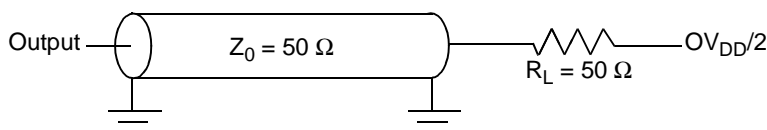
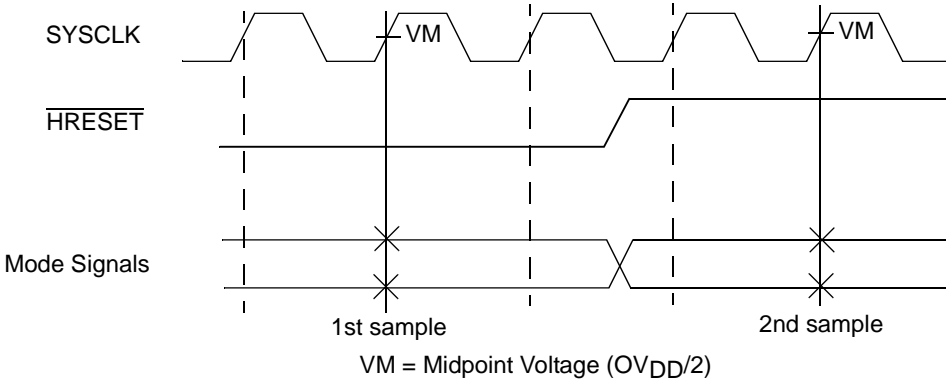
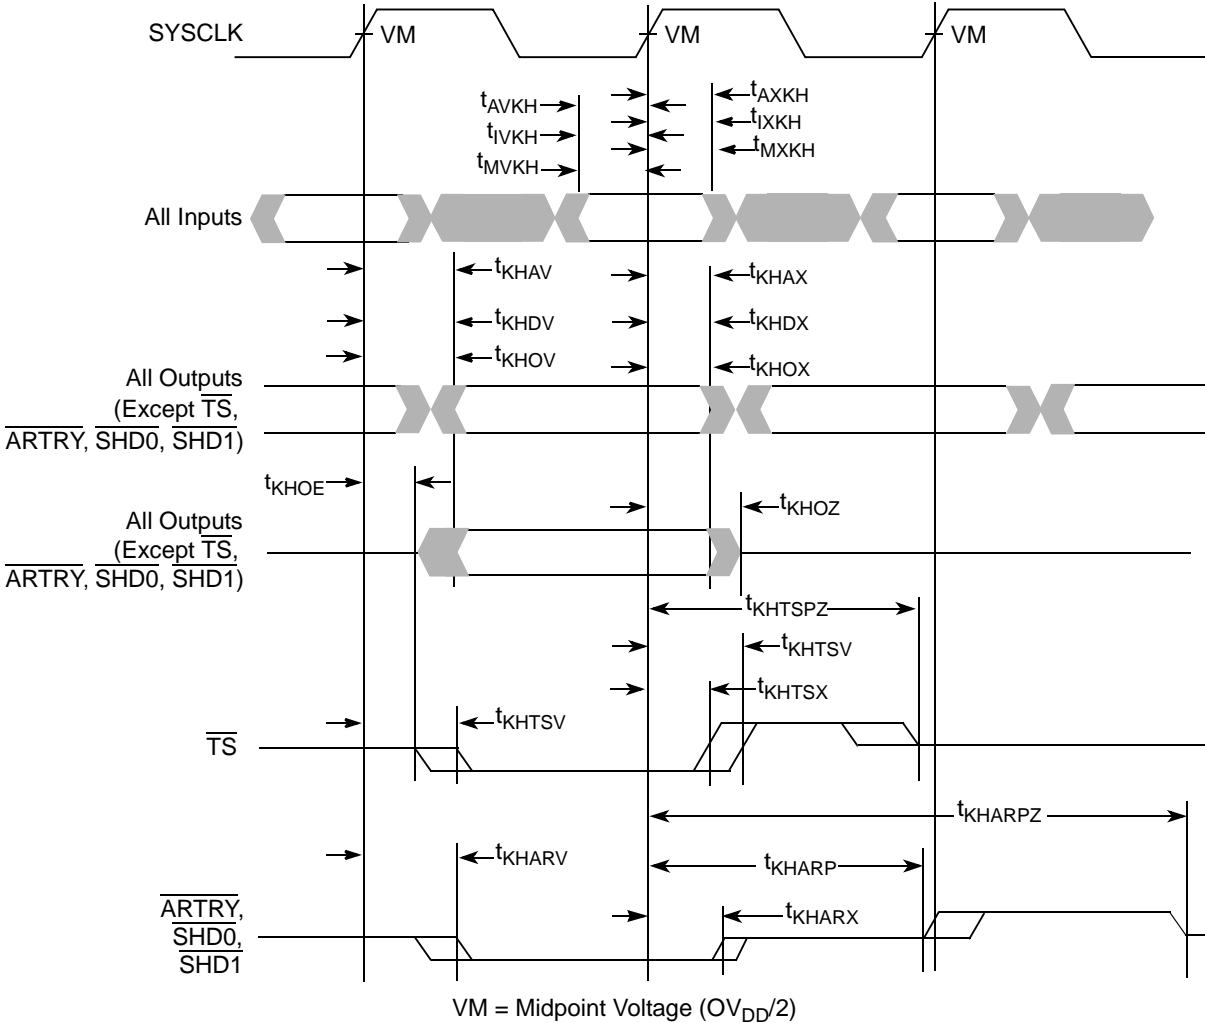

Figure 4. AC Test Load
Figure 5. Mode Input Timing Diagram
Figure 6. Input/Output Timing Diagram
Table 8 provides the clock AC timing specifications as defined in Figure 6 and represents the tested operating frequencies of the devices. The maximum system bus frequency, f_{SYSCLK} , given in Table 8 is considered a practical maximum in a typical single-processor system. The actual maximum SYSCLK frequency for any application of the MPC7457 will be a function of the AC timings of the MPC7457, the AC timings for the system controller, bus loading, printed-circuit board topology, trace lengths, and so forth, and may be less than the value given in Table 8.
Table 9 provides the processor bus AC timing specifications for the MPC7457 as defined in Figure 4 and Figure 5. Timing specifications for the L3 bus are provided in Section 1.5.2.3, “L3 Clock AC Specifications.”
- All input specifications are measured from the midpoint of the signal in question to the midpoint of the rising edge of the input SYSCLK. All output specifications are measured from the midpoint of the rising edge of SYSCLK to the midpoint of the signal in question. All output timings assume a purely resistive 50-Ω load (see Figure 4). Input and output timings are measured at the pin; time-of-flight delays must be added for trace lengths, vias, and connectors in the system.
- The symbology used for timing specifications herein follows the pattern of $t_{(\text{signal})(\text{state})(\text{reference})(\text{state})}$ for inputs and $t_{(\text{reference})(\text{state})(\text{signal})(\text{state})}$ for outputs. For example, t_{VKH} symbolizes the time input signals (I) reach the valid state (V) relative to the SYSCLK reference (K) going to the high (H) state or input setup time. And t_{KHOV} symbolizes the time from SYSCLK(K) going high (H) until outputs (O) are valid (V) or output valid time. Input hold time can be read as the time that the input signal (I) went invalid (X) with respect to the rising clock edge (KH) (note the position of the reference and its state for inputs) and output hold time can be read as the time from the rising edge (KH) until the output went invalid (OX).
- According to the bus protocol, $\overline{\text{TS}}$ is driven only by the currently active bus master. It is asserted low then precharged high before returning to high impedance as shown in Figure 6. The nominal precharge width for $\overline{\text{TS}}$ is $0.5 \times t_{\text{SYSCLK}}$, that is, less than the minimum t_{SYSCLK} period, to ensure that another master asserting $\overline{\text{TS}}$ on the following clock will not contend with the precharge. Output valid and output hold timing is tested for the signal asserted. Output valid time is tested for precharge. The high-impedance behavior is guaranteed by design.
- According to the bus protocol, $\overline{\text{ARTRY}}$ can be driven by multiple bus masters through the clock period immediately following AACK. Bus contention is not an issue because any master asserting $\overline{\text{ARTRY}}$ will be driving it low. Any master asserting it low in the first clock following AACK will then go to high impedance for one clock before precharging it high during the second cycle after the assertion of AACK. The nominal precharge width for $\overline{\text{ARTRY}}$ is $1.0 t_{\text{SYSCLK}}$; that is, it should be high impedance as shown in Figure 6 before the first opportunity for another master to assert $\overline{\text{ARTRY}}$. Output valid and output hold timing is tested for the signal asserted. The high-impedance behavior is guaranteed by design.
- $\overline{\text{BMODE}}[0:1]$ and $\overline{\text{BVSEL}}$ are mode select inputs and are sampled before and after $\overline{\text{HRESET}}$ negation. These parameters represent the input setup and hold times for each sample. These values are guaranteed by design and not tested. These inputs must remain stable after the second sample. See Figure 5 for sample timing.
Figure 4 provides the AC test load for the MPC7457.
Figure 5 provides the mode select input timing diagram for the MPC7457.
Figure 6 provides the input/output timing diagram for the MPC7457.